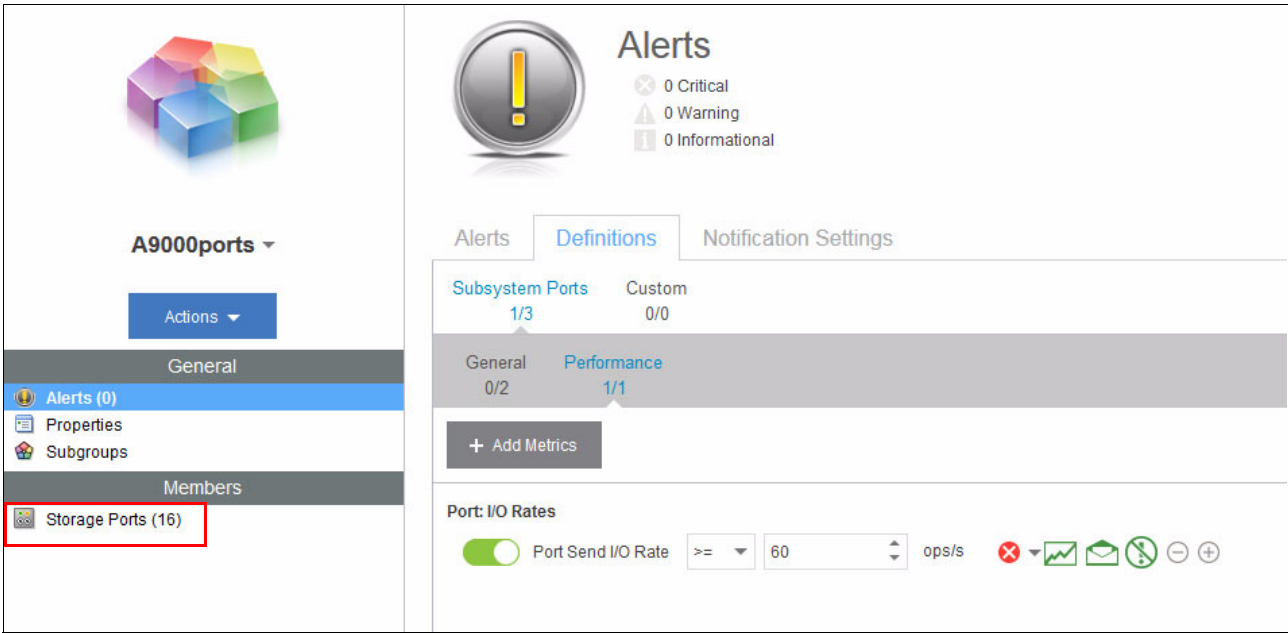

Figure 3-10 General Group Alert definition for A9000 ports
2. Alerts/Thresholds can then be defined as for applications for the members of the general group, as shown in Figure 3-10.